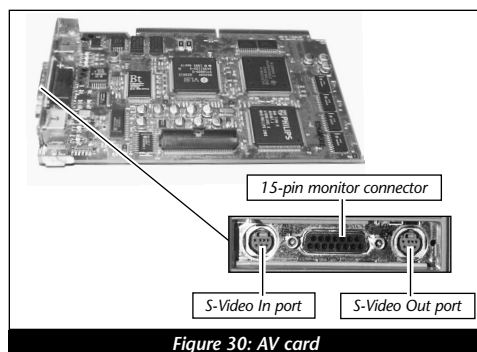

Figure 30: AV card
- **AV Card** – The AV card has a single 15-pin monitor connector for a monitor and S-Video In and S-Video Out ports (*Figure 30*) that support Audio/Video features.
- **HPV Card** – The HPV (High Performance Video) card has a single 15-pin monitor connector for a monitor and four onboard Video RAM (VRAM) slots (*Figure 30*).